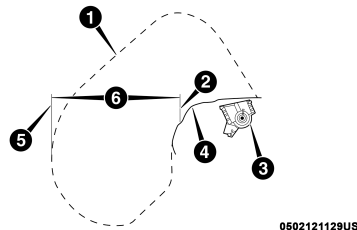

Figure 3 – Passenger Air Bag Deployment Zone, depicts the following:
2. Passenger Air Bag Deployment Zone (Figure 3) and Passenger Air Bag Lateral Deployment Zone (Figure 4)